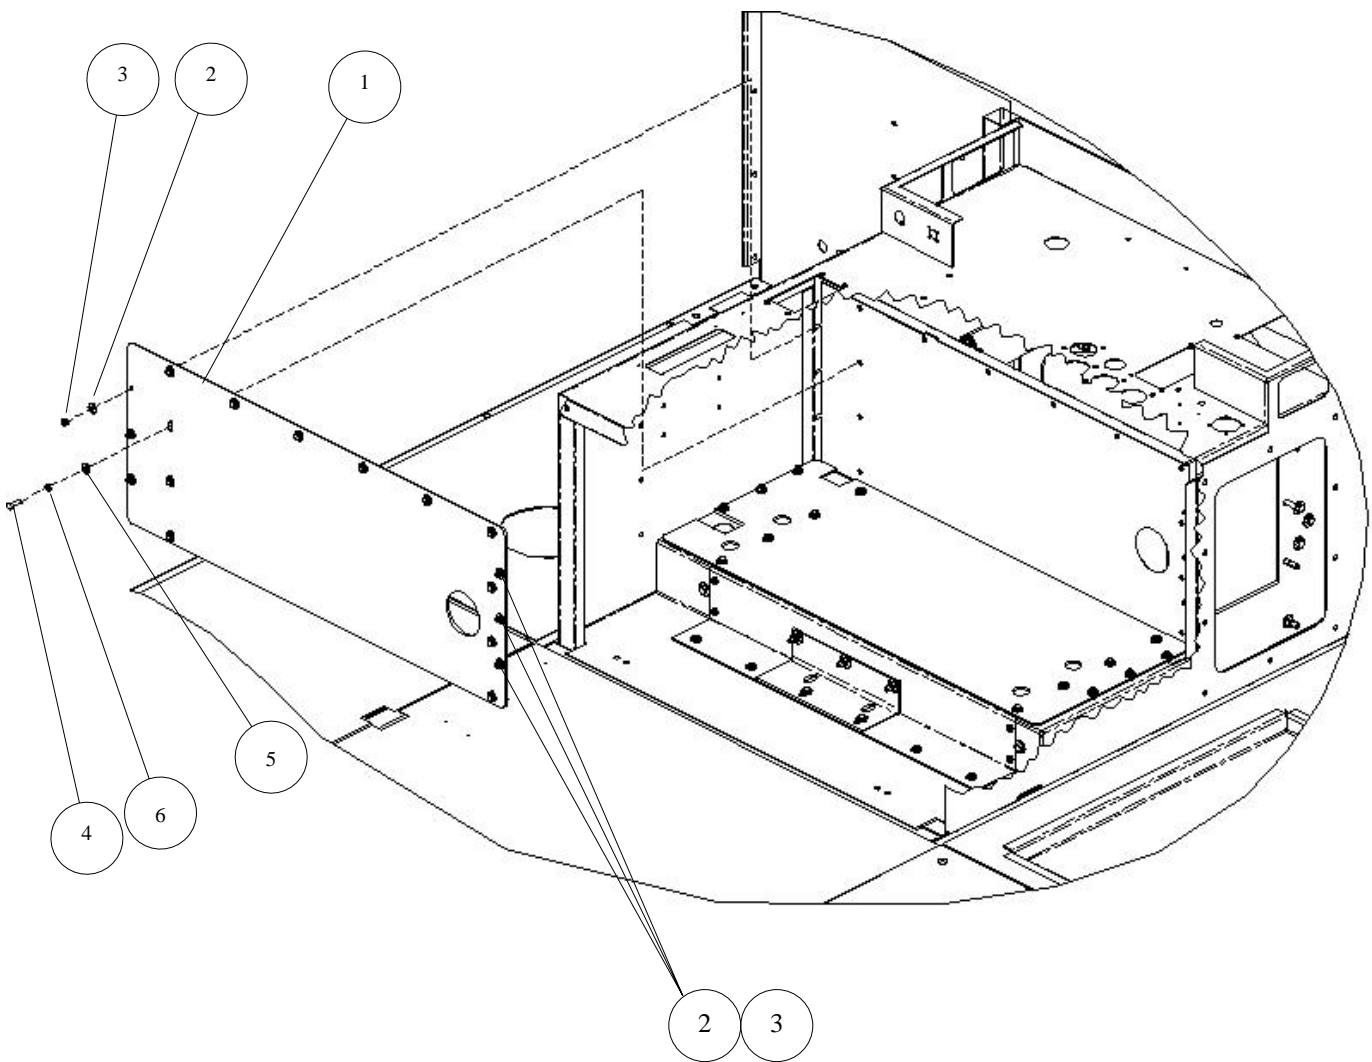

Figure 3-74. Doghouse Panel Installation.
6. Install doghouse panel as follows (see Figure 3-74):
- a. Temporarily remove 6 flat washers and locknuts (2) and (3), and install doghouse panel (1) and align the six left and right outer holes to the mounting studs.
- b. Secure the doghouse panel (1) with six flat washers (2) and locknuts (3), removed in Step 1. Torque locknuts to 7 lb-ft.
- c. Install 12 bolts (4), flat washers (5), and lock washers (6). Torque bolts to 5 lb-ft.